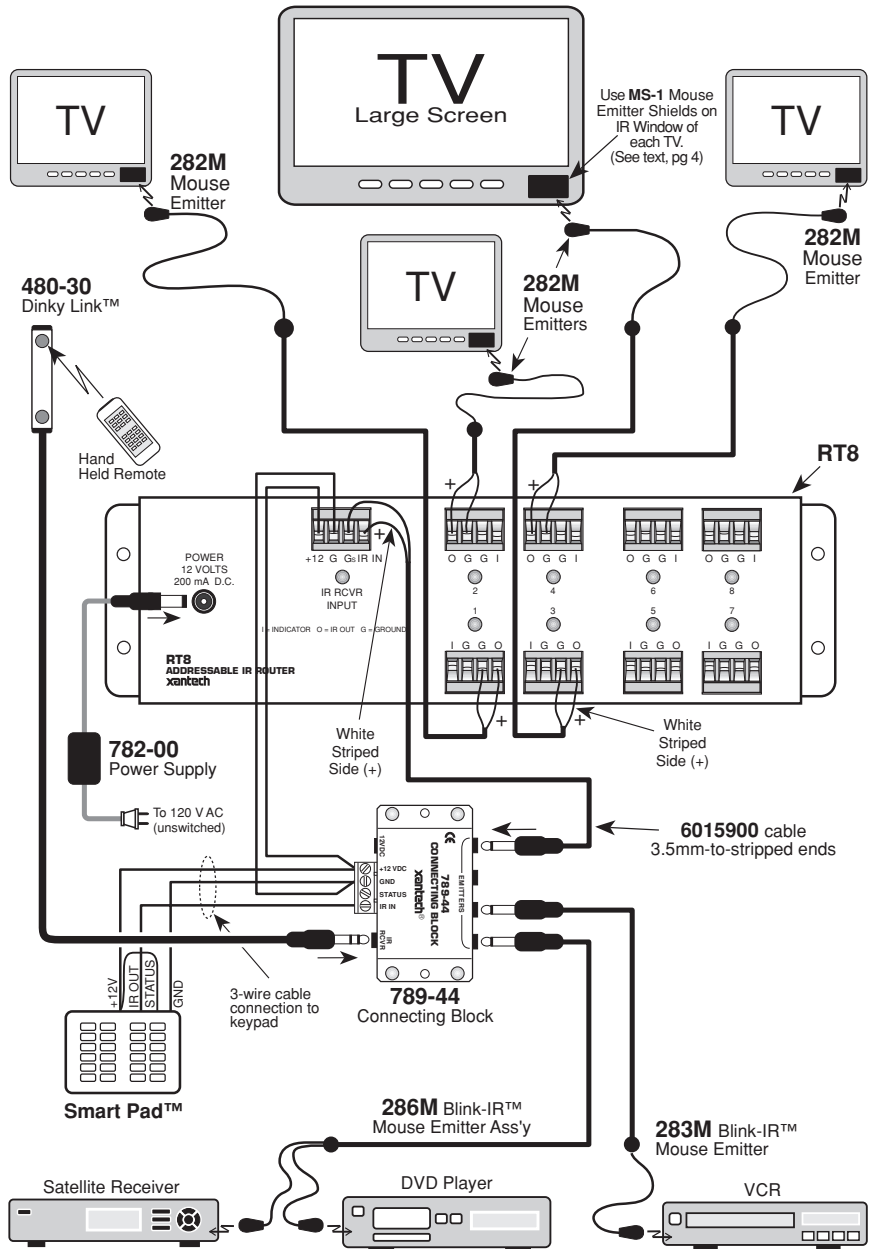

Fig. 4 Using the RT8 for IR Control of 4 TV Monitors
Fig. 4 illustrates a typical application where an RT8 is used to route IR control signals to four TV monitors in a media wall.
3. MS1 Mouse Emitter Shield Covers (optionally available for use with Mouse Emitters) must be used on each TV IR sensor window as shown in **Fig. 4**. This is necessary to prevent the TVs from responding directly to the IR signals from the handheld remote. See the 282M and MS1 instructions for information on applying the Shield Covers.
Figs. 4 and 6 show typical applications of the RT8. Many others are possible using similar techniques.